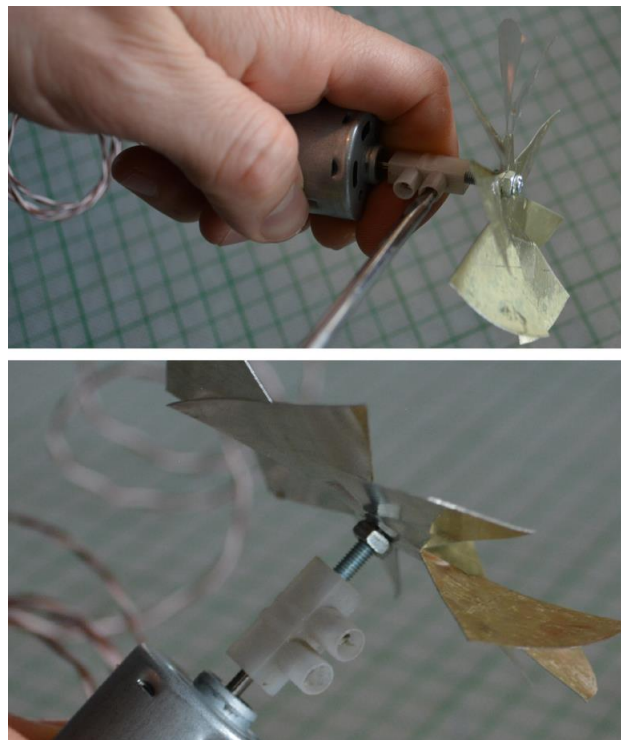

Figure 25
- Once you have the fan ready, attach the fan to the one hole of the clump. Then attach the axle of the motor to the other hole of the clump (see Fig. 25).